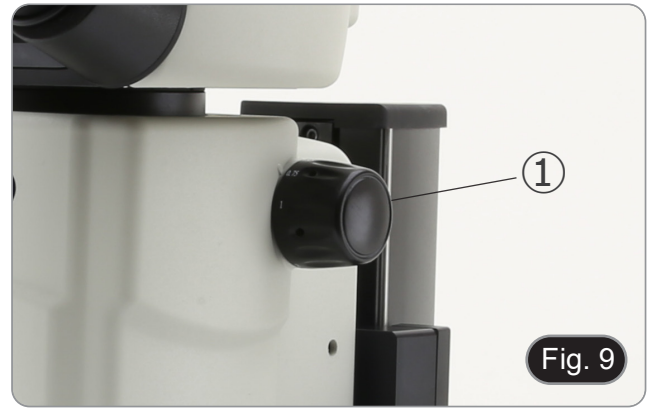

Fig. 9
1. Select the desired magnification by adjusting the zoom knob ①. (Fig. 9)